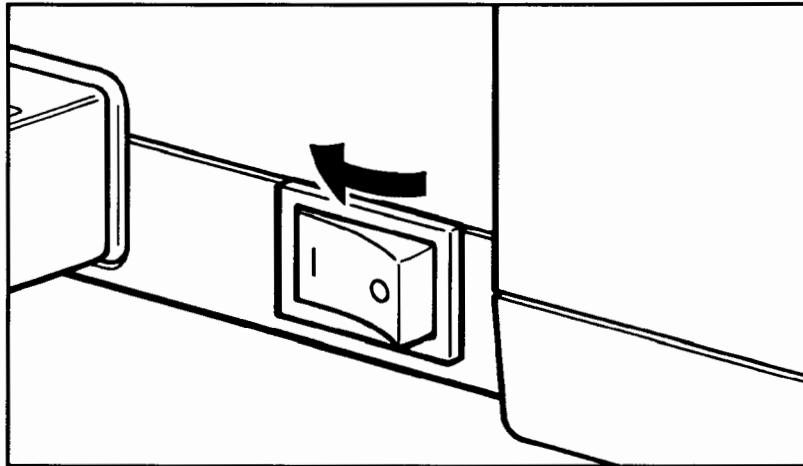

Figure 7. Turning ScanJet Plus On
2. Plug the power cord into an alternating current (AC) outlet. Plug in the rest of your computer system.
3. Turn on the scanner's power switch. See figure 7. The power indicator on the front of ScanJet Plus should be lit.